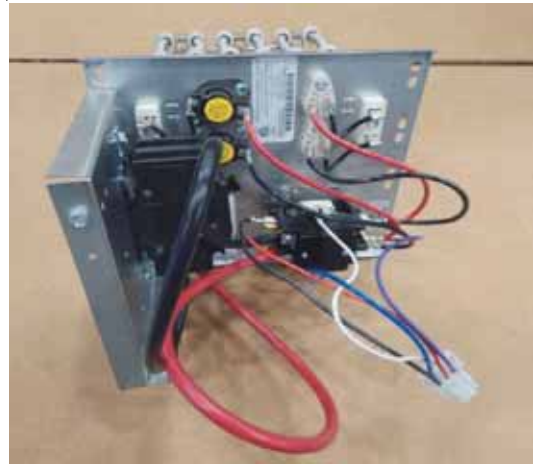

Figure 2
6. Remove screws attaching circuit breaker plate (Figure 2 and 3).